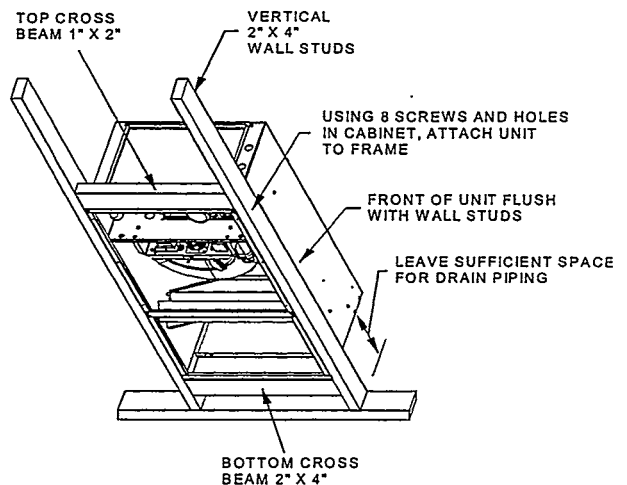

FIGURE 1
- The fan coil can be installed in a partition wall as shown in Figure 1. A louvered wall panel (made by the fan coil manufacturer) must be used with this type of installation and the lower access panel must be removed. The fan coil is installed before the drywall and the louvered panel is installed with screws or nails once the drywall is in place.